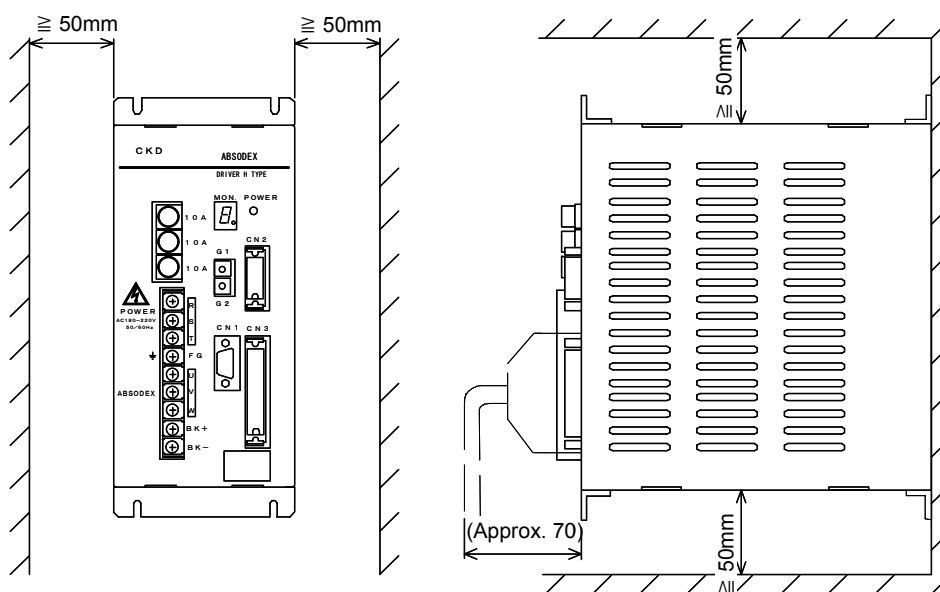

Fig. 2.7 Driver Installation
- (1) When the ABSODEX driver is to be housed in a control box, the arrangement should be made so that the temperature inside the box does not exceed 50°C with the space around the driver as shown in **Fig. 2.7**.